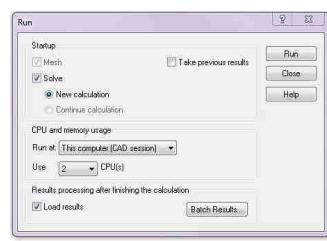

Fig. 14.8
- Click **Flow Simulation** → **Solve** → **Run**. Va apărea fereastra **Run**, fig. 14.8.
- Click **Flow Simulation** → **Solve** → **Run**. The **Run** dialog box appears, fig. 14.8.